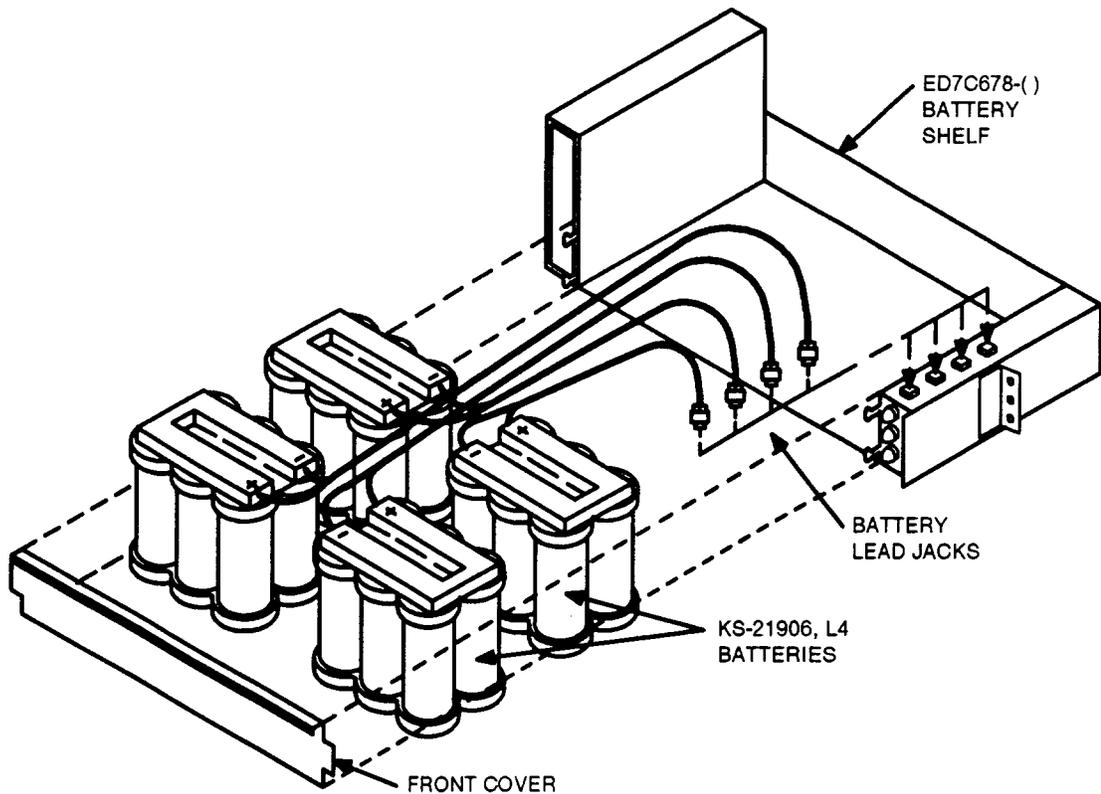

Figure 2 — Battery Placement and Connections
5. Place batteries on battery shelf and dress battery cables as each battery pack is placed on shelf (Figure 2).